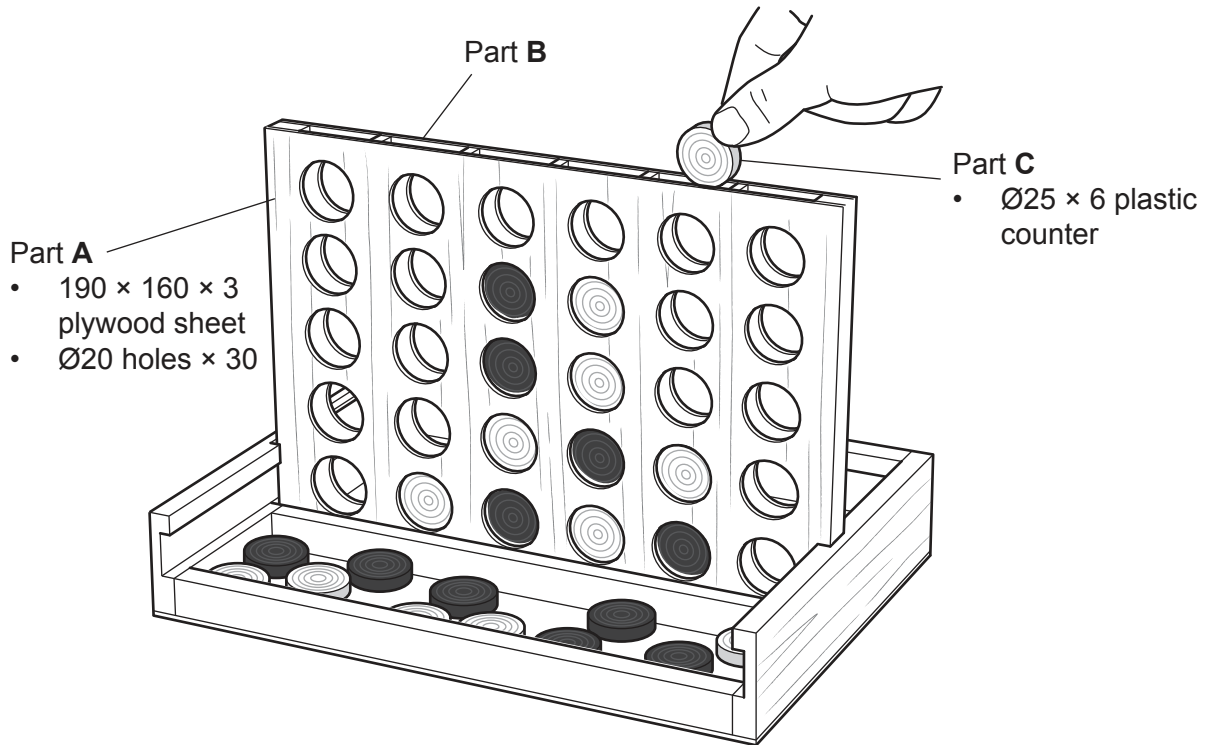

Fig. 1.1
- 1 Fig. 1.1 gives details of a wooden game which is to be made in a school workshop.